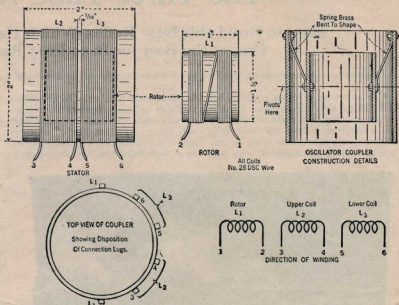

Fig. 12.—Details for construction of the oscillator coupler used in the super-auto-dyne receiver.
d.s.c. wire. The rotor coil also consists of twenty-eight turns of the same size wire on a 1½-inch tube rotatable within the stator tube. See Fig. 12.